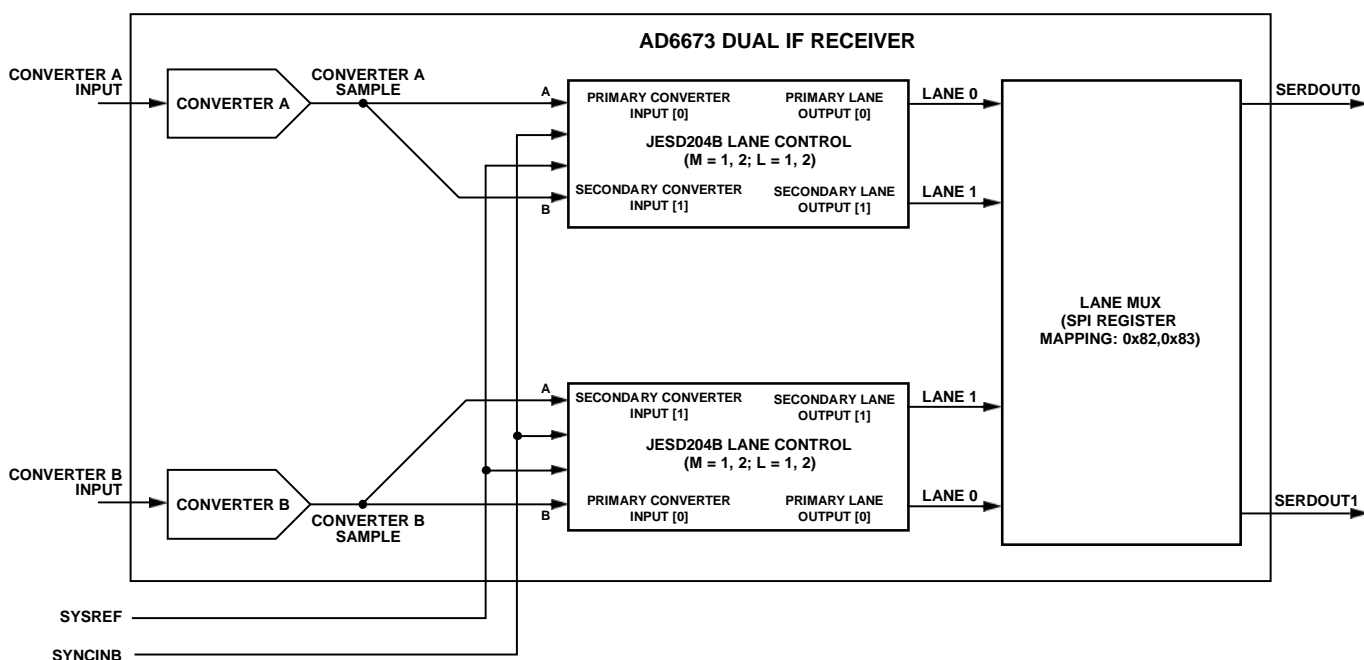

Figure 49. AD6673 Transmit Link Simplified Block Diagram
- Option to remap converter and lane assignments, Register 0x82 and Register 0x83. See Figure 49 for a simplified block diagram.